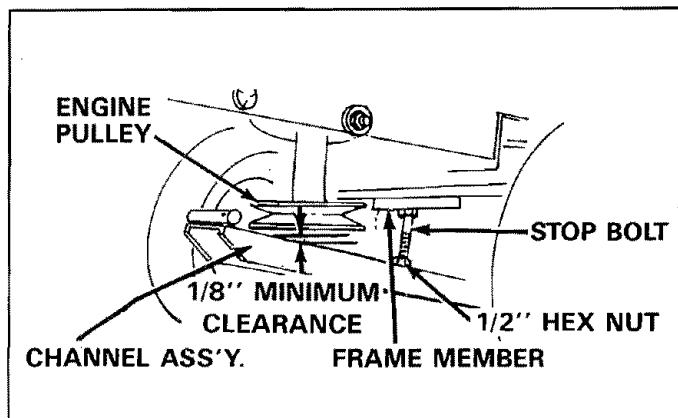

FIGURE 9
6. Adjust 1/2" x 1-1/4" stop bolt, previously assembled into channel assembly (step 2). See figure 9. Adjust hex nuts, above and below channel to provide at least 1/8" clearance between channel and the tractor engine pulley with the stop bolt positioned against frame member. See figure 9.